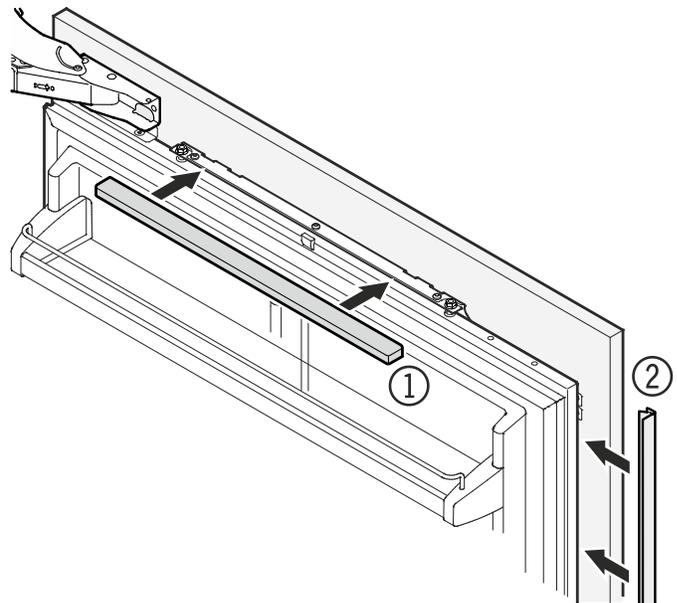

Figure 37
11. Click cover ① into place. Insert the cover strip provided ② between refrigerator door and panel (**Figure 37**).